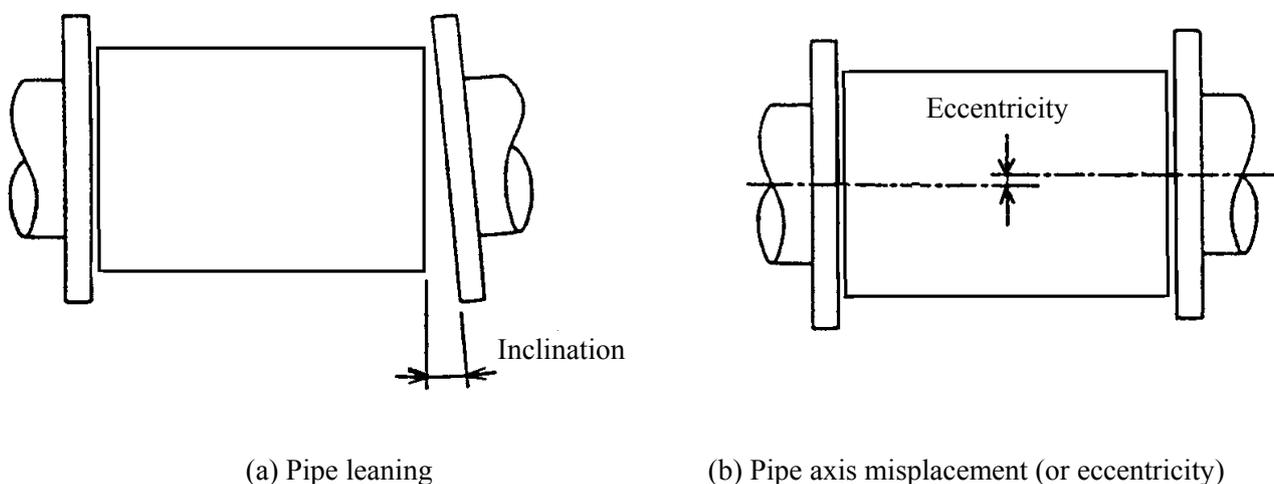

Figure 4.1 Pipe leaning and axis misplacement
- (1) Before installing pipes, check for any leaning or misplacement (or eccentricity) as illustrated in Figure 4.1. An attempt to unreasonably connecting pipes that are inclined may lead to a detector breakdown or fluid leakage. Connecting pipes in an eccentric state may also cause local wears and tears of linings and grounding rings, as well as measurement errors. Before installing pipes, make sure to flash the interior of the pipes to remove deposited matters.